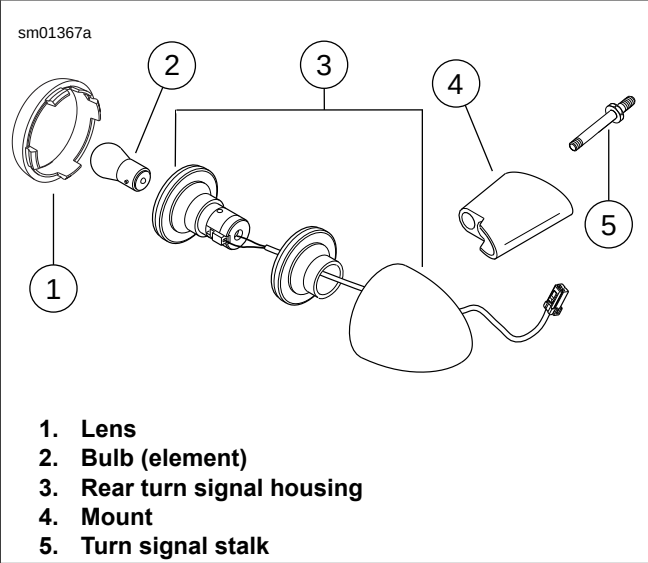

Figure 6-72. Rear Turn Signal Components: XL 883R/L
3. See Figure 6-72. Install each turn signal housing (3) and mount (4) to rear fender strut cover with turn signal stalk (5). Tighten to 96-156 **in-lbs** (10.9-17.6 Nm).